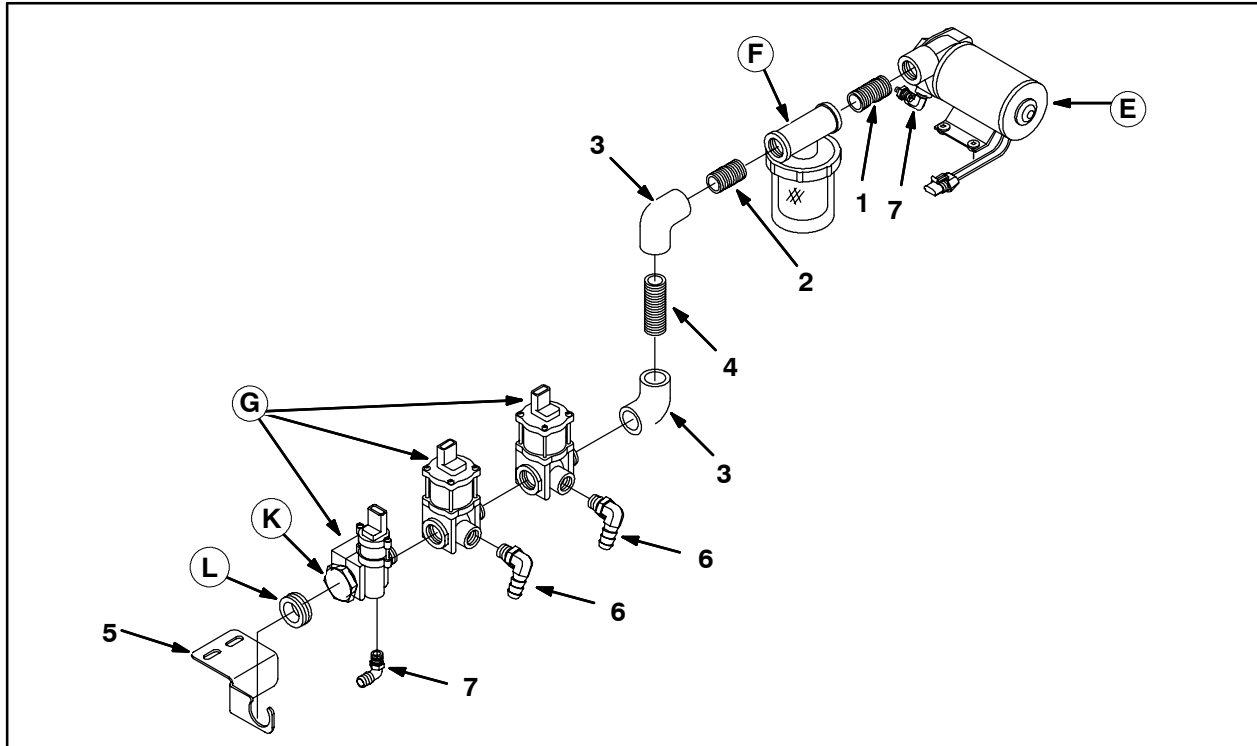
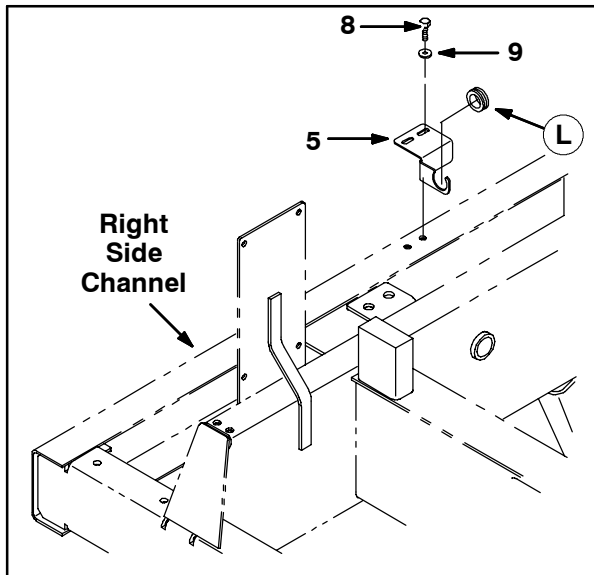

FIG. 3
FIG. 4
9. Assemble fittings (1), (2), (3), (4), (6), and (7), onto the water pump (E), strainer (F), and valves (G). Note how parts are oriented. Refer to Fig. 3.
10. Install the grommet (L) into the notch in the support plate (5). Refer to Fig. 4.
11. Slide the grommet (L) installed into the support plate (5) in the previous step over the cap (K) in the end valve (G) and onto the pipe portion of the valve. Refer to Fig. 3 and Fig. 4.
12. Use two hex screws (8) and two flat washers (9) to install the support plate (5) onto the right side channel of the frame weldment. Refer to Fig. 4.
15. Reconnect the wire harness to the water pump (E) and the valves (G). Refer to Fig. 3.